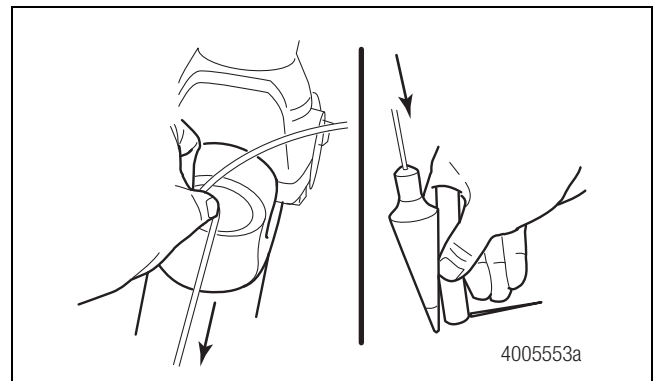

Figure 13.31
5. Attach a plumb bob to the center of the transmission universal joint. Mark a point on the ground just below the plumb bob. Figure 13.31.